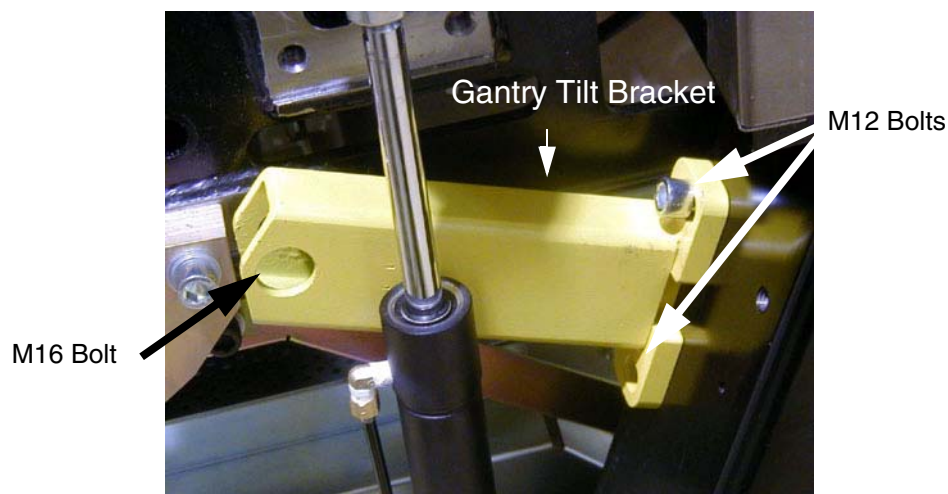

Figure 1-56 Gantry Tilt Bracket Removal
- 1.) Remove the M12 bolts using a 10 mm Hex wrench (see Figure 1-56).